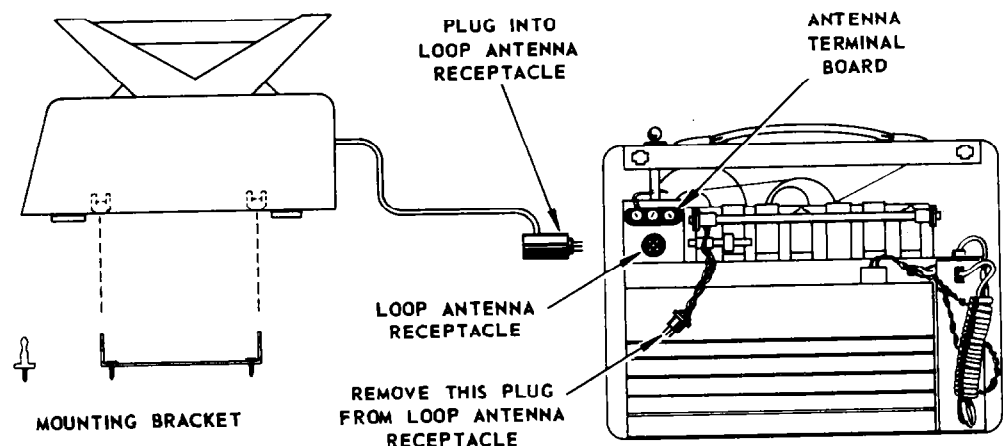

Figure 2. Installation Instructions
2.2 **Connections** — The electrical connections required to connect the RDF66 to the NC66 are shown in figure 2. Remove the rear dust cover from the NC66 and remove the small plug from the receptacle on the antenna terminal board. This disconnects the NC66 ferrite loop antenna. Plug the cable from the RDF66 into the receptacle from which the NC66 ferrite loop antenna plug was removed. The rear dust cover may now be replaced on the NC66 using the upper left-hand clearance hole for the RDF66 cable.